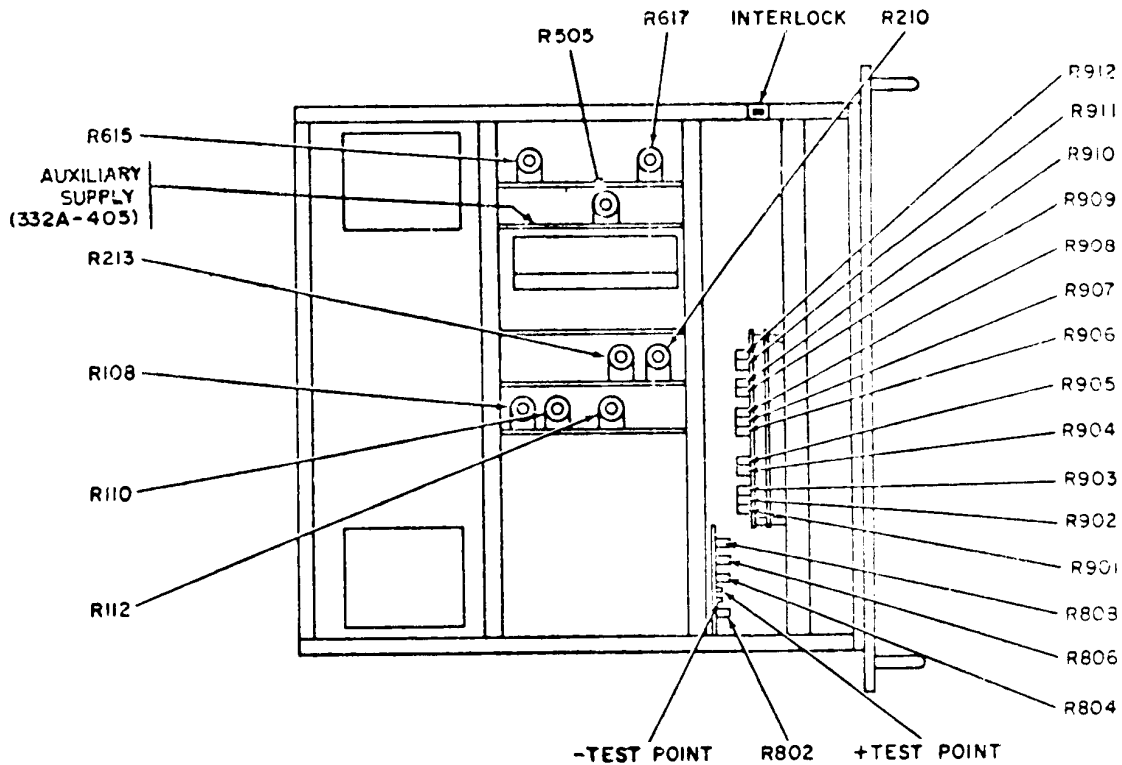

Figure 3. Model 332A top view - adjustment locations.
(1) Set  $\Delta E$  control of dc transfer standard to 000 and adjust R112 (fig. 3) for a null indication on null detector (R).
(2) Set  $\Delta E$  control of dc transfer standard to 000 and adjust R110 (fig. 3) for a null indication on null detector (R).
(3) Set  $\Delta E$  control of dc transfer standard to 000 and adjust R108 (fig. 3) for a null indication on null detector (R).
(1) Adjust R907 (fig. 3) for same indication on null detector (R). (Report only if difference is greater than 30 microvolts.)
- (1) Set TI voltage dials to 10.000000.
- (2) Adjust R804 (fig. 3) for a null indication on null detector (R).
- (3) Perform (1) and (2) above, but do not report adjustments.
- (4) TI voltage dials to 100.000000.
- (5) Adjust R806 (fig. 3) for a null indication on null detector (R).
- (6) Perform (4) and (5) above, but do not report adjustment.
- (7) Set TI voltage dials to 1000.0000.
- (8) Adjust R808 (fig. 3) for a null indication on null detector (r).
(1) Set voltage dials to 10.000000.
(2) Adjust R210 (fig. 3) for null indication on null detector (R).
(3) Set VOLTAGE TRIP control fully clockwise.
(4) Set POWER switch to STANDBY/RESET and back to ON.
(5) Adjust R213 (fig. 3) fully counterclockwise.
(6) Set VOLTAGE TRIP control to midrange.
(7) Slowly adjust R213 clockwise until voltage trip circuit actuates (R).
(8) Set voltage dials to 6.000000.
(9) Adjust R617 (fig. 3) fully counterclockwise then clockwise until LIMIT ON lamp comes on. Panel meter should indicate 60 milliamperes (R).
(10) Turn CURRENT LIMIT control to 0 (zero).
(11) Adjust R615 (fig. 3) for indication of 1 milliampere on panel meter (R).